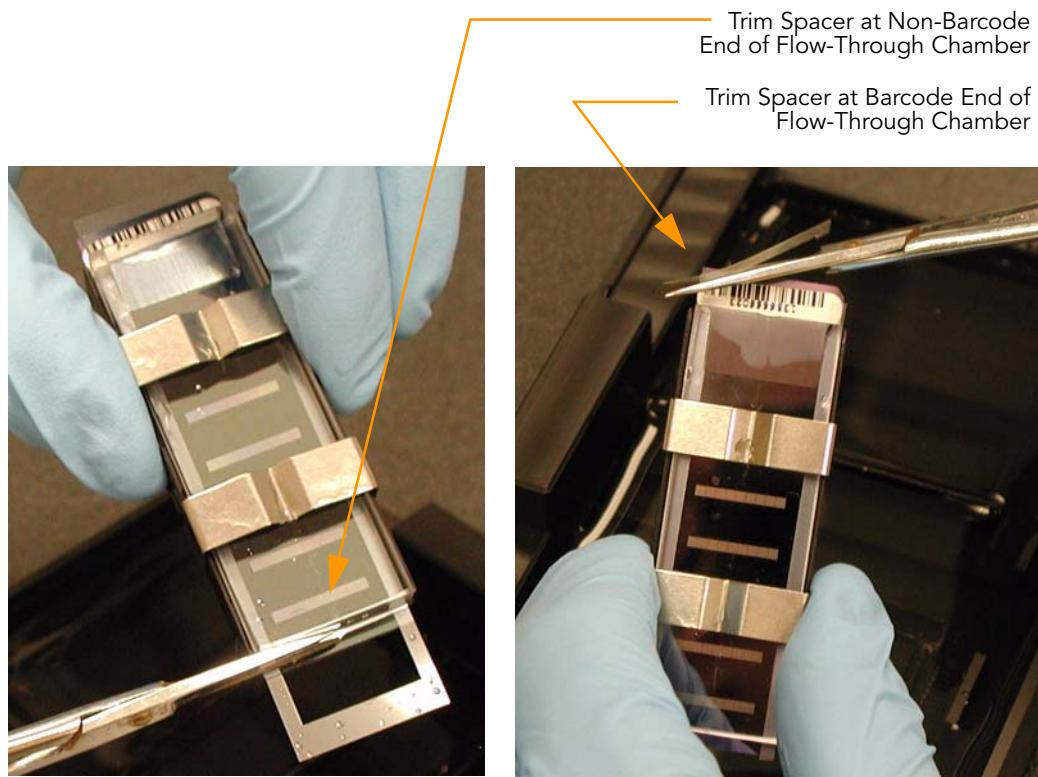

Figure 52 Trimming Spacer Ends from Flow-Through Chamber Assembly
8. Using scissors, trim the ends of the clear plastic spacers from the Flow-Through Chamber assembly (Figure 52):